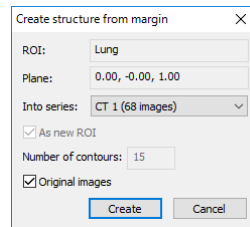

Figure 259 – Create structure from margin dialog
7. To create a new ROI from the generated margin, click the **Make new ROI...** button. The **Create structure from margin** dialog (see Figure 259) is then displayed in which you proceed as follows: